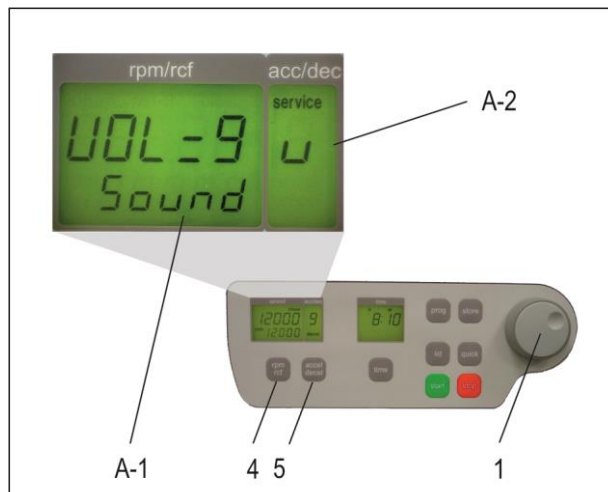

Figure8
Proceed as illustrated, under point 1.8.1, to enter this program mode, press the key "accel/decel" (5). In the display, "accel/decel" (A-2), flashes the word, "service". Select the letter, "u" with the adjustable knob (1). As a result, appearing in the display, "rpm/rcf" (A-1), are the words, "Vol=0-9/Sound". By pressing the key, "rpm/rcf" (4), the desired volume can be adjusted between 0 (low) and 9 (loud), with the adjustable knob (1), (see Figure8).